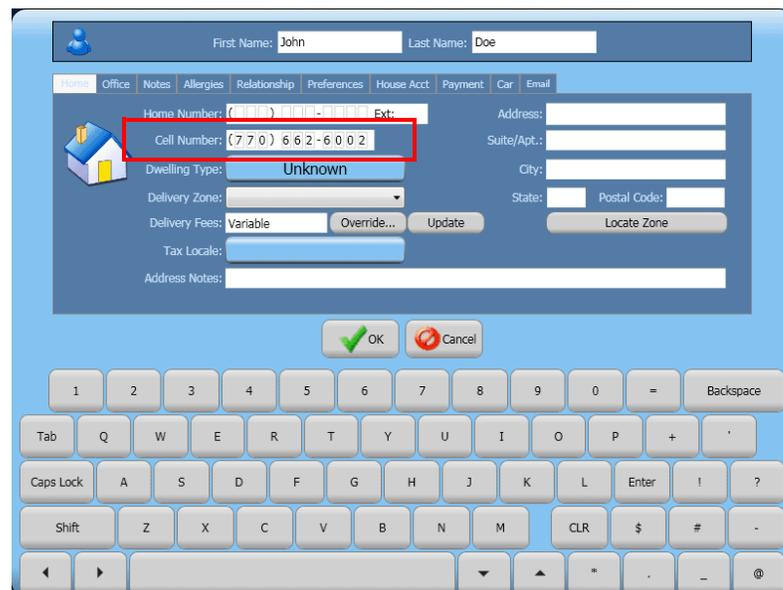

Figure 41 Guest Record Screen
1. Start an **order** in Aloha Takeout. If the guest is not already entered into the system, the guest record appears (Figure 41).